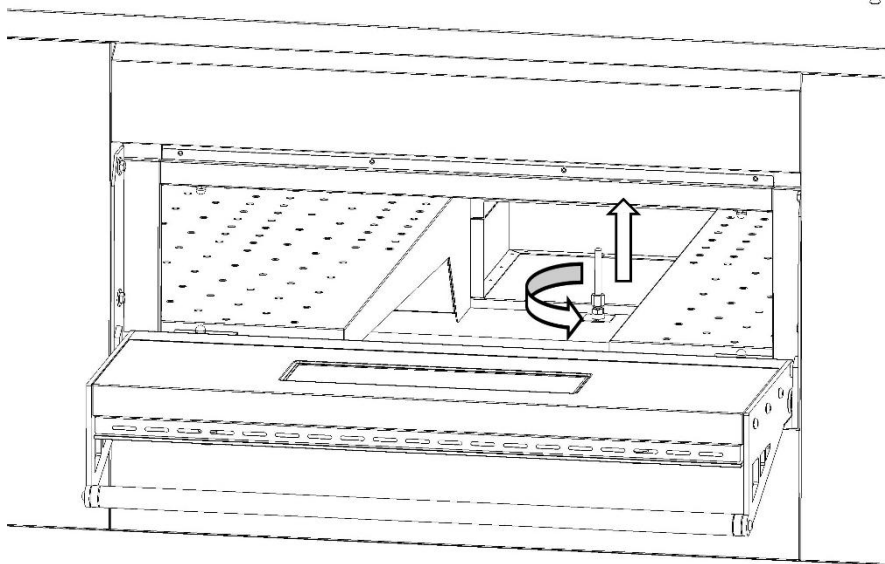

Fig.10B
- 7.Using a wrench 12 loosen the mounting nut of the support and remove the probe (Fig.10B).